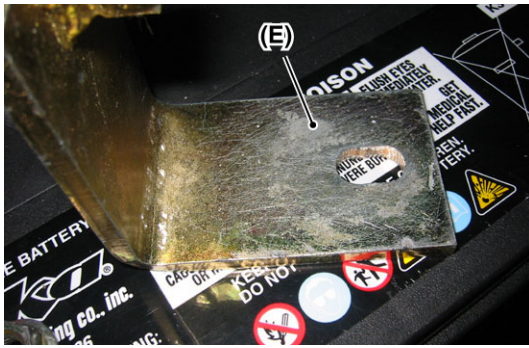

Fig. 4
3. Inspect the engine stopper (E) and engine support (F) for corrosion, paint, and burs. If any are found, sand down the problematic areas. Fig. 4 & 5